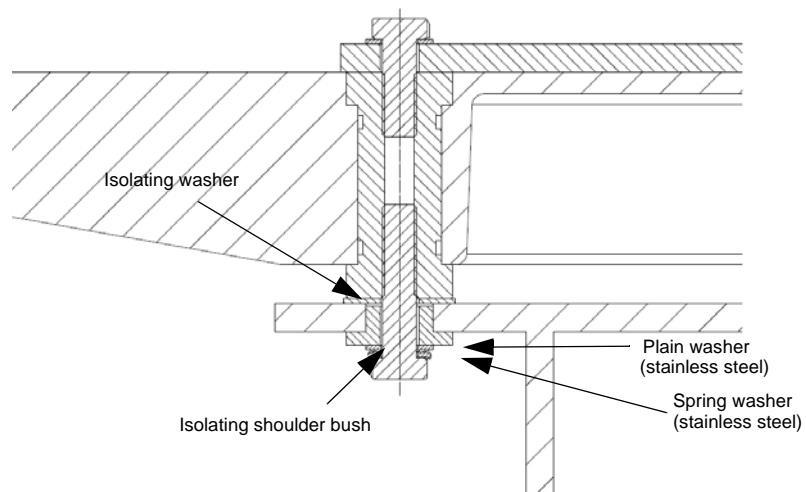

Figure B-7: Isolation of the ADU from the mounting base
4. If the ADU is to be isolated from the mounting base, use shoulder bushings and washer, see figure B-7, *Isolation of the ADU from the mounting base* on page B-12.